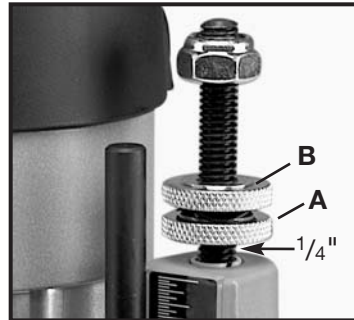

Fig. 13
6. Turn lower-travel limiting nut (A) Fig. 13 until it is approximately 1/4" above the top of the plunge housing (Fig. 13). While holding lower nut, turn upper nut until it "jams" against the lower nut.